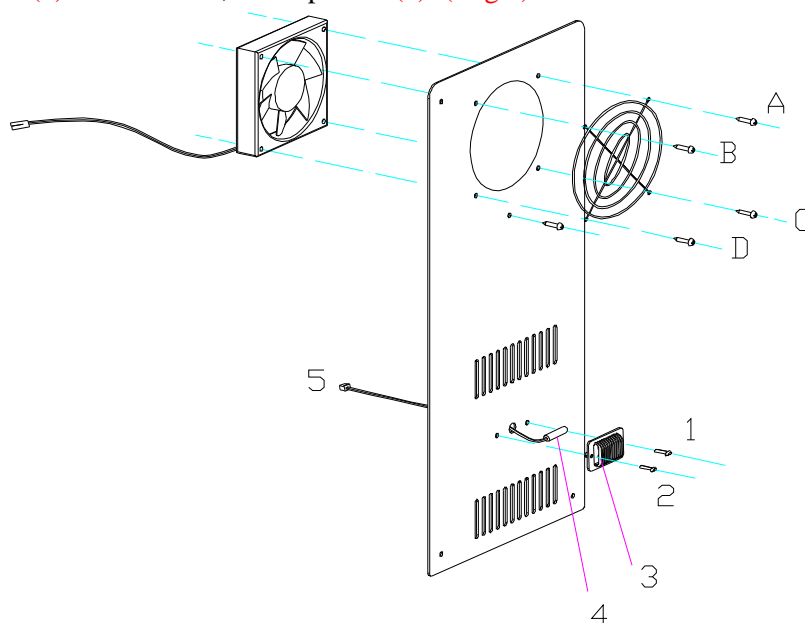

Fig.8
2 >. The LED display shows E7, and it is the left zone's sensor open circuit fault, check the connection wire and the main board whether open circuit, if not, replace the sensor with the same module. See(Fig.8.)
3 >. The LED display shows E8, and it is the left zone's sensor short circuit fault, check the connection wire and the main board whether short circuit, if not, replace the sensor with the same module. See(Fig.8.)
4 >. The LED display shows E1, and it is the right zone's sensor open circuit fault, check the connection wire and the main board whether open circuit, if not, replace the sensor with the same module. See(Fig.8.)
5 >. The LED display shows E2, and it is the right zone's sensor short circuit fault, check the connection wire and the main board whether short circuit, if not, replace the sensor with the same module. See(Fig.8.)
- C. Push and then pull out the two plastic nails(1,2),the sensor cover(3) come loose, disconnect the connector(5) of the sensor, and replace it(4). ( Fig.8)